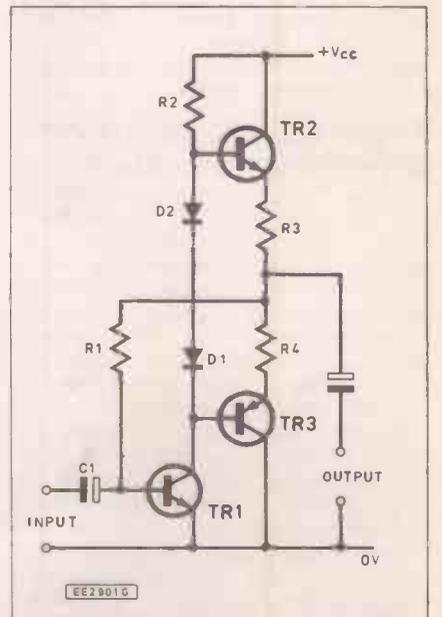
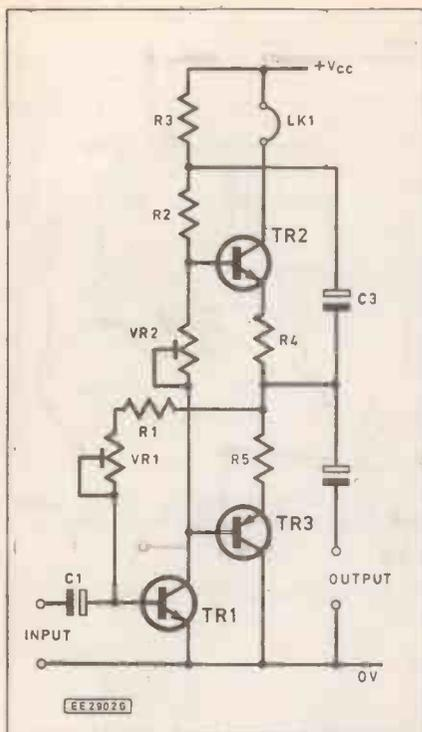
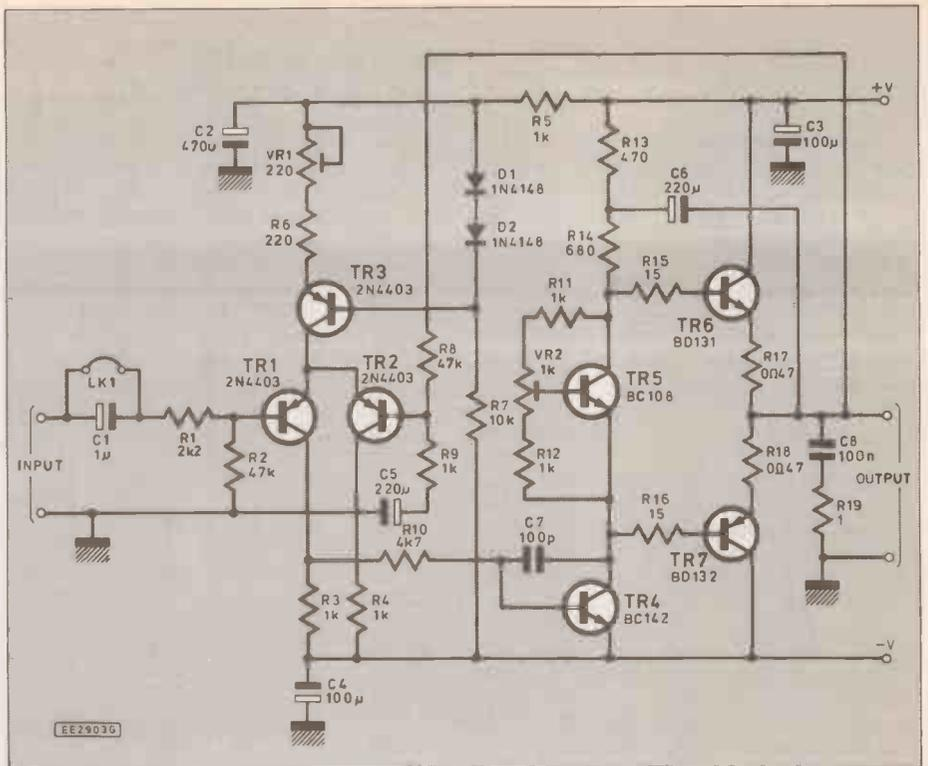

Fig. 3.9 Basic circuit of a practical complementary power amplifier
Fig. 3.10 Improved complementary power amplifier
Fig. 3.11 High quality power amplifier module
Having introduced some of the basic output stage configurations employed within power amplifiers, it is time that we introduced some practical circuit designs. Fig. 3.9 shows the basic circuit diagram of a complementary output stage in which the driver stage, TR1 operates in common emitter mode whilst the complementary output pair, TR2 and TR3, operate as emitter followers. Two forward biased silicon diodes, D2 and D3, provide a constant voltage drop of approximately
**Question 2:** The circuit shown in Fig. 3.9 operates with BD131 and BD132 transistors from an 18V supply rail. What is the maximum theoretical power that can be delivered to:
**Question 3:** The circuit shown in Fig. 3.9 is to provide an output of 20W. If the loudspeaker is to be a nominal 8 ohm type,
The circuit of Fig. 3.9 is ideal for low-cost non-critical applications and will operate satisfactorily with supply rail voltages of between 9V and 45V. The output transistors will require adequate heatsinks (e.g. 3 deg.C/W, or less, for amplifiers of 10W, or greater output). In addition, where the d.c. supply rail exceeds 30V, TR1 should also be fitted with a small
power amplifier circuit shown in Fig. 3.10. The "bootstrap" feedback is applied by means of C3 whilst the two pre-set resistors, VR1 and VR2, are adjusted under quiescent (no signal) conditions for voltage symmetry across the output transistors (the voltage at the junction of R4 and R5 should be exactly half the supply voltage) and quiescent current, respectively.
Whilst the performance of the circuit of Fig. 3.10 is adequate for many applications, it needs further refinement to be suitable for use in "high-fidelity" equipment. Fig. 3.11 shows the circuit of a high-quality power amplifier based on discrete components. This circuit offers a great deal of flexibility and can be used with a variety of output devices to realise output power levels of up to 50W.
The emitter current of TR1 and TR2 is set by VR1 and, since TR1 is d.c. coupled to the base of TR4, it can be used to adjust the symmetry of the output stage in the same manner as that provided by VR1 in the circuit of Fig. 3.10.
As with R3 and R4 in Fig. 3.9 and R5 and R6 in Fig. 3.10, low value resistors, R17 and R18, provide some protection for the output transistors against the effects of thermal runaway. These components also provide last-ditch protection in the event of a short-circuit at the output (which would otherwise cause the output transistors some considerable pain when the amplifier is driven!).